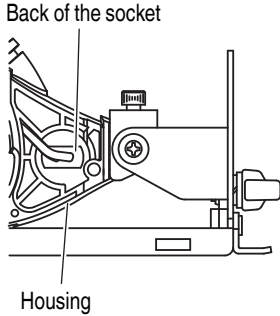

Fig. 19
- (2) Push the back of the socket, and remove the socket and the light bulb together from the housing (Fig. 19).